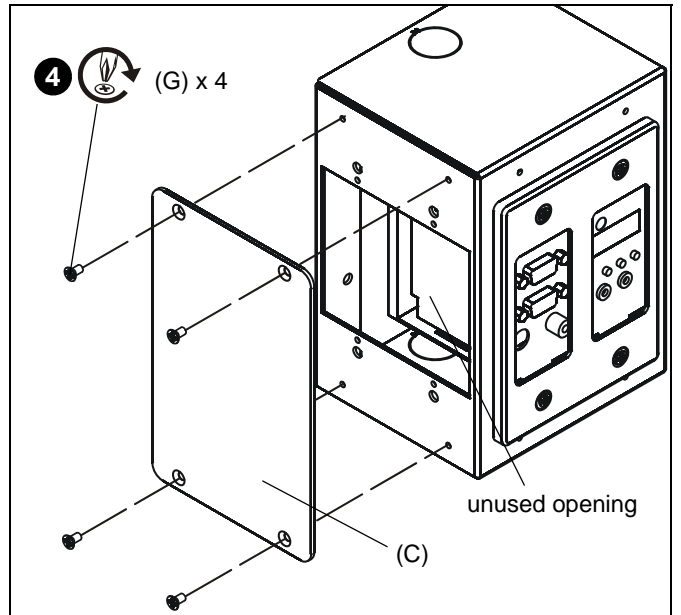

Figure 7
4. Install blank cover (C) to cover unused opening in electrical box (A) by installing four #6-32 x 1/4" Phillips flat machine screws (G) through cover holes and into holes on electrical box. (See Figure 7)